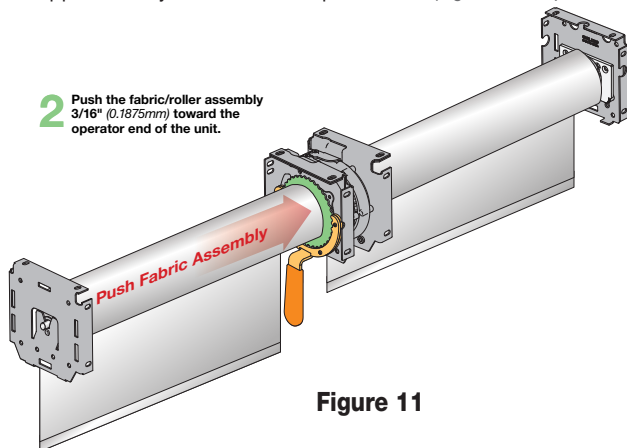

Figure 11
2. Push the fabric/roller assembly you are adjusting toward the operator end of the unit. The fabric/roller assembly you are pushing will move approximately 3/16" toward the operator end (Figs. 11 and 14).